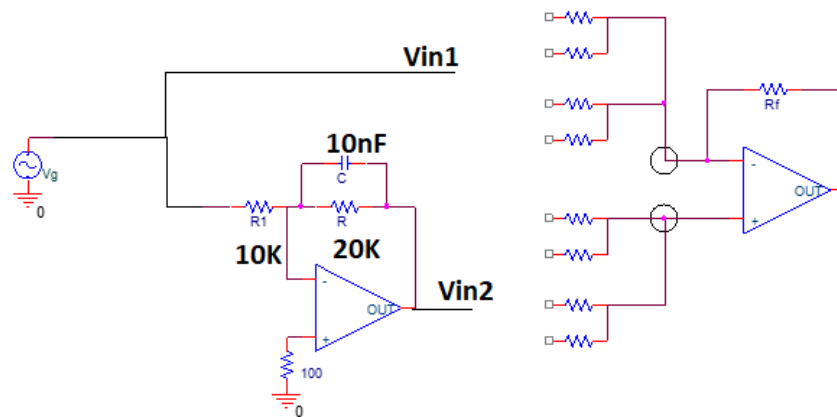

Figure 12
10.3. You may connect any free node in Figure 12 to the ground, to one of the voltage sources, or leave it as is (disconnected from the circuit). The resistors may be replaced with a wire (short-circuit) or disconnected completely from the circuit. Design the correct circuit, based on this general solution, to match the transfer-function you've been assigned. You may only use the free resistors available to you on the circuit board; see photo of the board on the website.